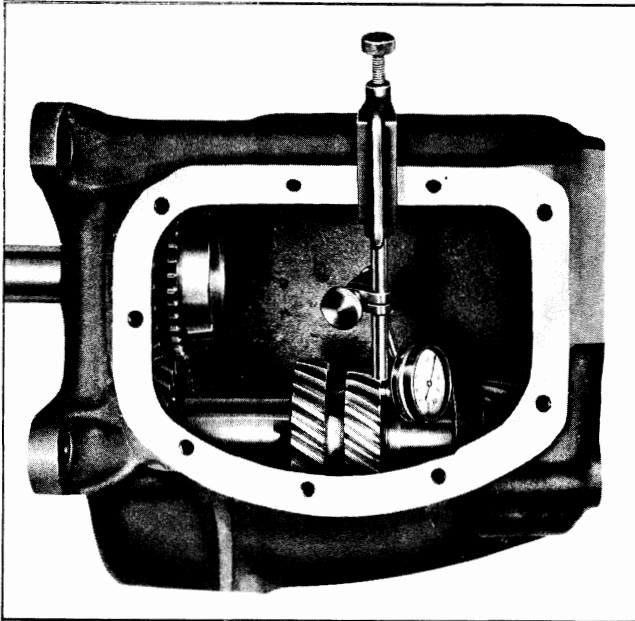

Fig. 7B-29 Checking Countergear End Play
7. Attach a dial indicator as shown in Fig. 7B-29, and check the end play of the countergear. End play must not be more than .025".
8. Install the fourteen (14) bearing rollers into main drive gear, using heavy grease to hold the bearings in place.